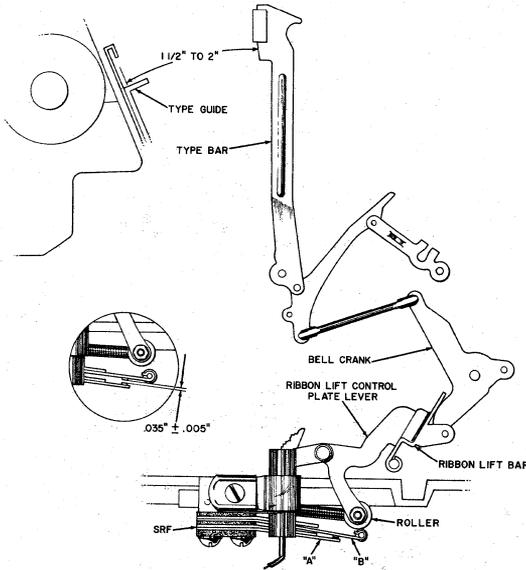

Figure 2
When a character printing key lever is operated, its type bar moves toward the platen and a bell crank pivots the Ribbon Lift Bar (Figure 2). The Ribbon Lift Control Plate Lever is attached to and moves with the Ribbon Lift Bar. The roller on the tail of the lever strikes and closes the Ribbon Feed Contact (SRF) to complete a circuit to energize the Ribbon Feed Magnet (LRF).
1. With a printing type bar held 1 1/2" to 2" away from the type guide (Figure 2), form contact "A" so it just touches contact "B".
2. With the type bar restored to its non-operated position, form contact "B" so there is a clearance of .035" plus or minus .005" between it and contact "A" (Inset, Figure 2).